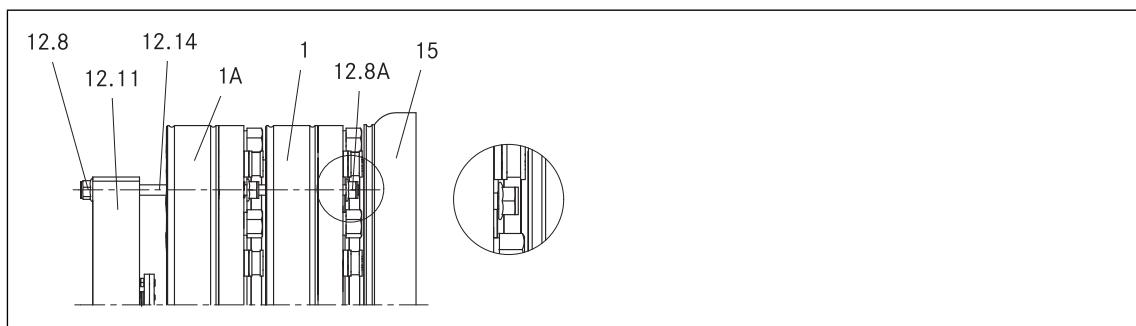

Fig. 17 Pre-assembly of the brake with manual release on the motor
- Evenly tighten the brake with the six socket head cap screws (10) included in the scope of supply in several runs using a torque key (as shown in Figure 17).
10. Use a torque key to re-tighten the supplied fixing screws (10) with the required tightening torque (§ 16).